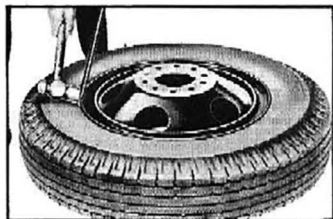
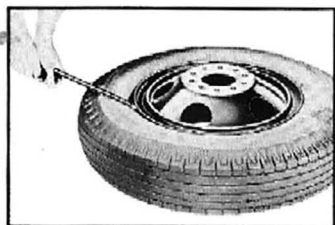

Fig. 79—Starting Side Ring Removal
Fig. 80—Removing Side Ring
4. Drive the curved end of the tire iron in between the side ring and the entire bead (fig. 79). Then pry down on the opposite end of tire iron to move the tire bead away from the side ring flange (fig. 80). Continue the foregoing operation progressively around the tire until the side ring is removed. In some cases it may be necessary to work around the tire a couple of times.